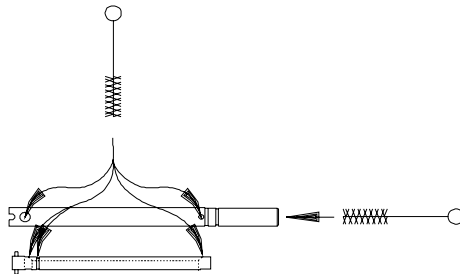

Figure 7-6 Brush the mix feed tube
a. The mix feed tube and regulator main bore and cross holes (figure 7-6).